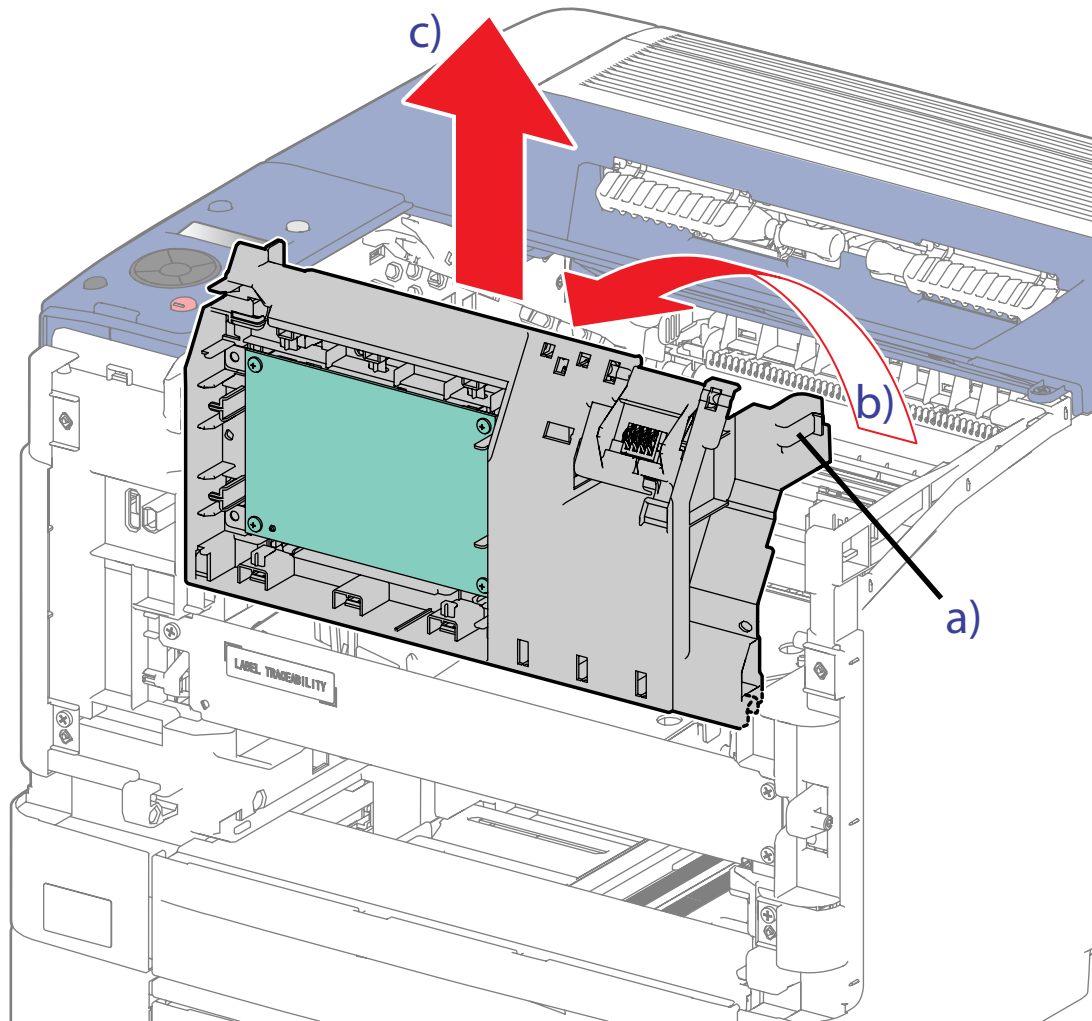

Figure 3
6. Release the MCU Housing. (Figure 3)